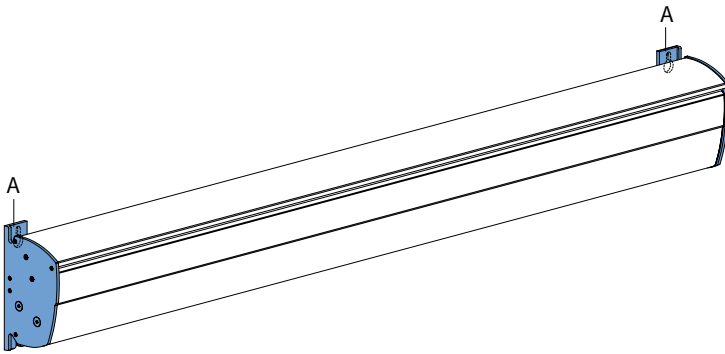

fig. 1.1 Wall support sun awning
For the installation of the awning, the two wall supports (A) need to be level horizontal and vertical. See figure 1.1 and 1.2. The wall supports need to be installation in the same line on the wall. If the wall supports are not in the same line (with an uneven position of the arms as a result) the awning will not function correctly.